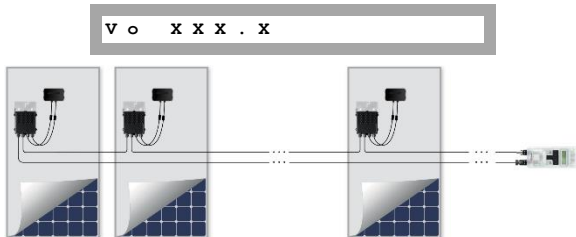

Figure 2: SolarEdge Key connection
- 3** Connect a string of power optimizers to the SolarEdge Key (see Figure 2).
- 3 Connect a string of power optimizers to the SolarEdge Key (see Figure 2).